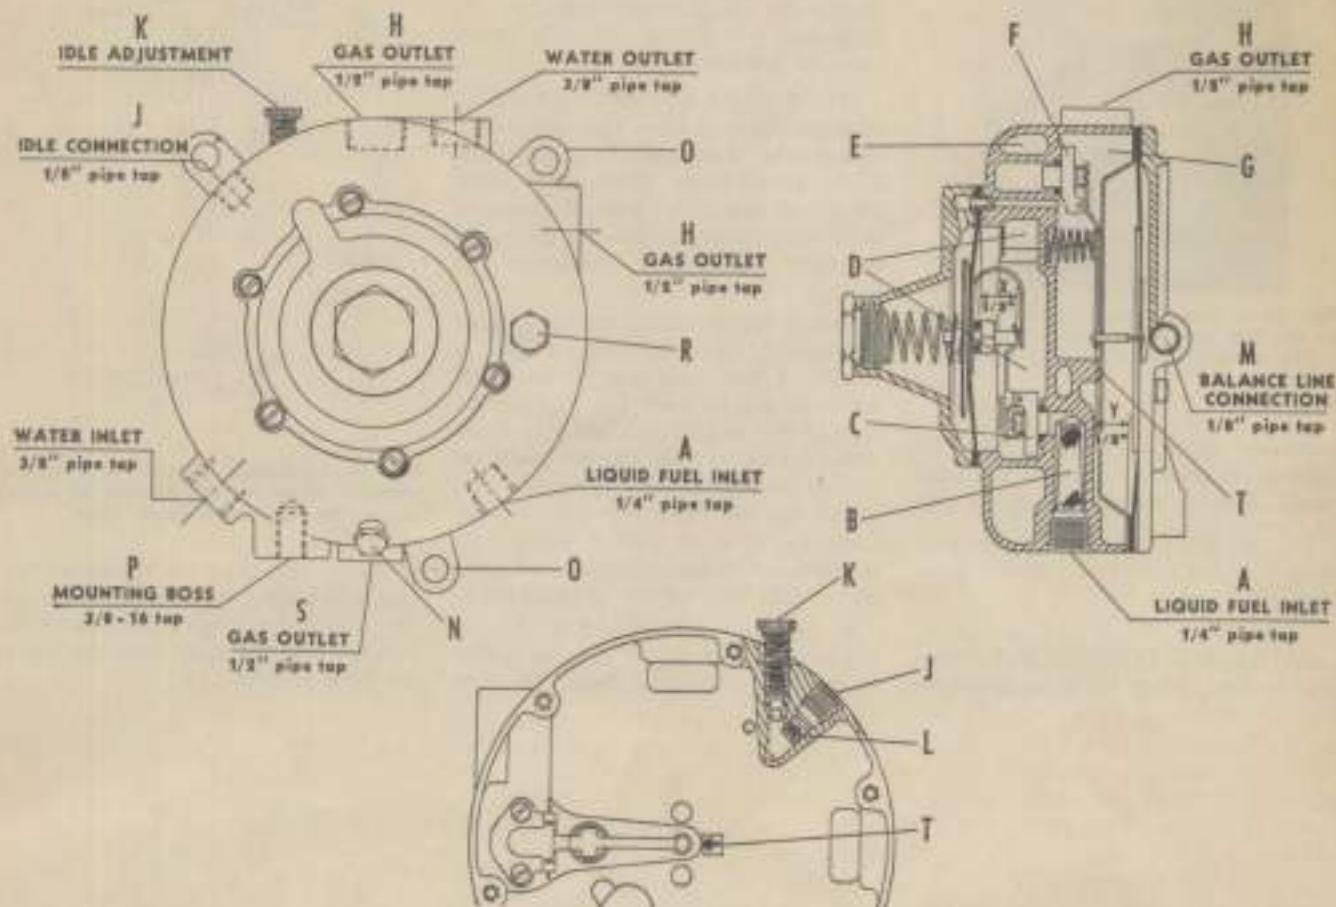

Fig. 64—Model W Ensign LP-Gas regulator of similar construction to that used. For exploded view refer to Fig. 67.
**102. IDLE MIXTURE SCREW.** With the choke open, engine warm and idle stop screw set, adjust idle mixture screw (K—Fig. 64), located on regulator, until best idle is obtained. An average adjustment is approximately  $1\frac{1}{4}$ -turns open.
**107. HOW IT OPERATES:** In the Ensign model W regulator, fuel from the supply tank enters the regulating unit (A—Fig. 64) at a tank pressure of 25-80 psi and is reduced from tank pressure to approximately 4 psi at the inlet valve (C) after passing through the strainer (B). Flow through the inlet valve is controlled by the adjacent spring and diaphragm. When the liquid fuel enters the vaporizing chamber (D) via the valve (C) it expands rapidly and is converted from a liquid to a gas by heat
If the foregoing remedy does not correct the trouble check for a leak at the inlet valve by connecting a low reading (0-20 psi) pressure gage at point (R—Fig. 64). If the pressure
Before reassembling the unit, note dimension (X—Fig. 64) which is measured from the face on the high pressure side of the casting to the inside of the groove in the valve lever when valve is held firmly shut as shown in Fig. 65. If dimension (X) which can be measured with Ensign gage No. 8276 or with a depth rule is more or less than ½-inch, bend the lever until this setting is obtained.